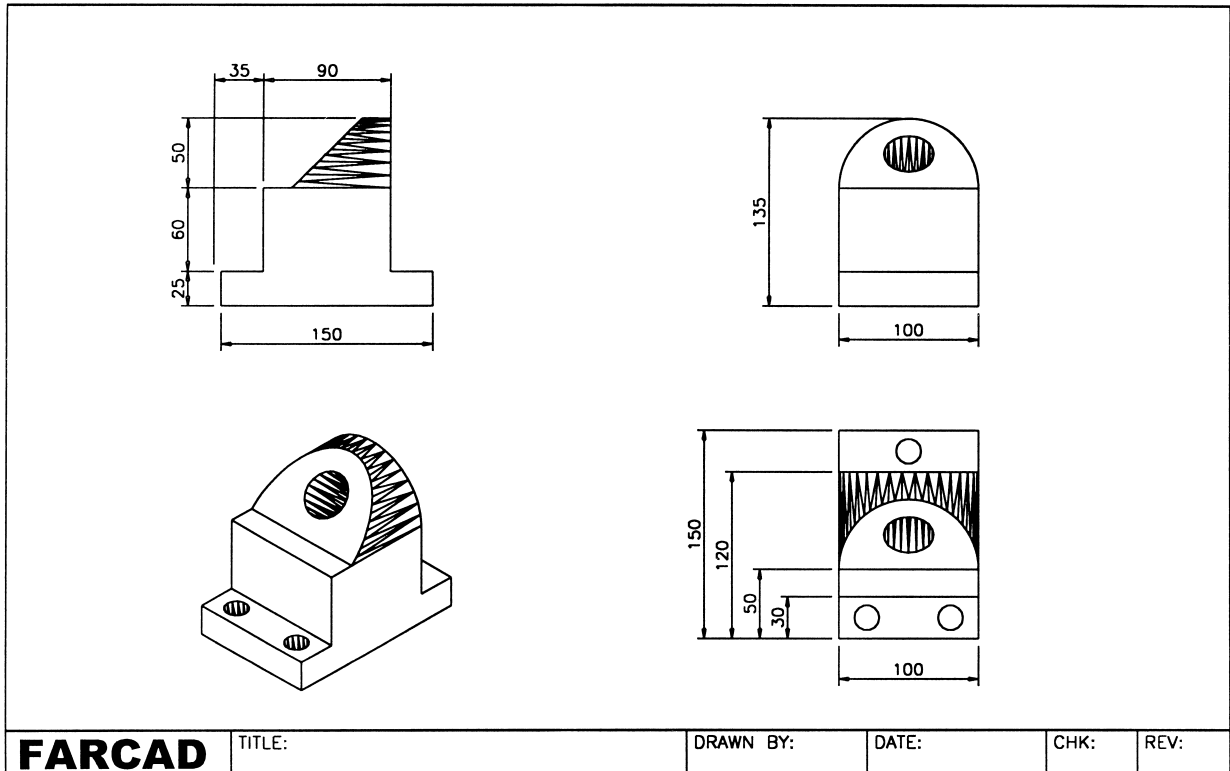

Figure 31.2 Completed solid composite MACHSUPP with dimensions.
- c) refer to Fig. 31.2
- 7 The composite model is now complete with dimensions added and can be plotted with the layer VP frozen for effect – Fig. 31.2